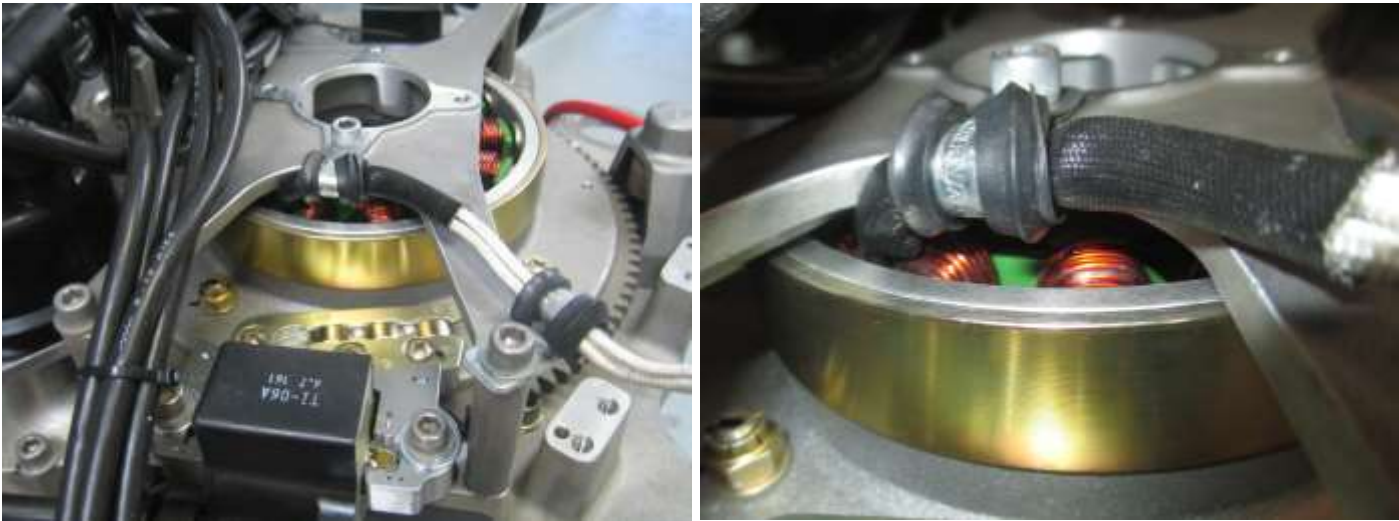

Figure 157 – Stator cable orientation
- Check the alternator stator is oriented so the electrical leads are directed out the right side of the mount and bend up to the top of the engine as shown in Figure 157. Attach clamps to hold cable to alternator mount.